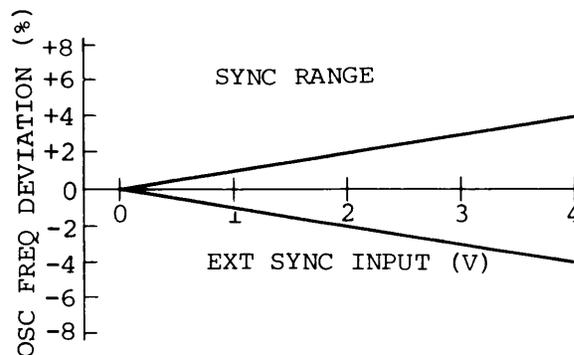

Fig. 2. Sync range.
- a. When an external synchronizing signal source is available, connect the sine wave signal from the external signal source to the SYNC INPUT terminal and the oscillating frequency can be synchronized with the external sine wave signal within a synchronizing range shown in Fig. 2, which indicates a ratio of synchronization of 1% per volt of synchronizing signal.